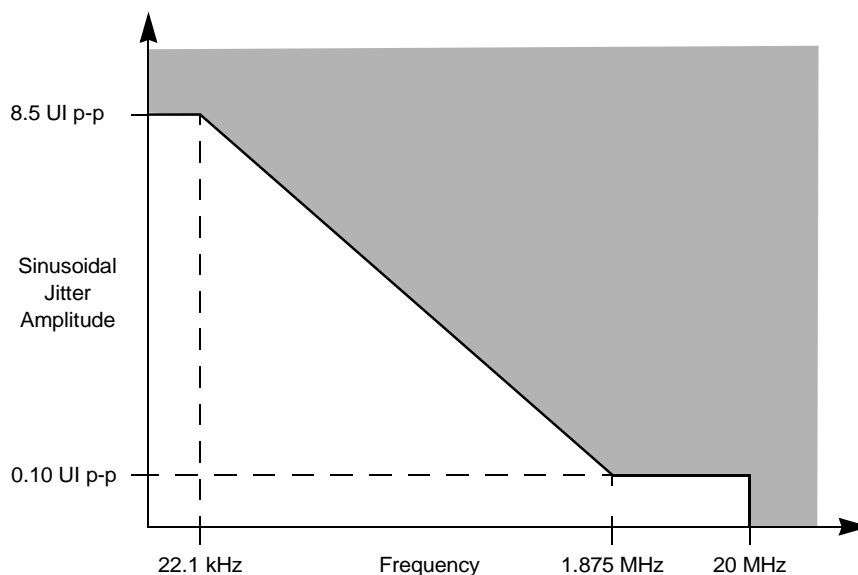

Figure 18. Single Frequency Sinusoidal Jitter Limits
2. Total jitter is composed of three components, deterministic jitter, random jitter, and single frequency sinusoidal jitter. The sinusoidal jitter may have any amplitude and frequency in the unshaded region of Figure 18. The sinusoidal jitter component is included to ensure margin for low frequency jitter, wander, noise, crosstalk, and other variable system effects.
Notes: 1. See Figure 18 for single frequency sinusoidal jitter limits 2. Each UI is 800 ps \pm 100 ppm.
Notes: 1. Measured at receiver. 2. Refer to RapidIO™ 1x/4x LP Serial Physical Layer Specification for interpretation of jitter specifications. Also see Figure 18 . 3. Each UI is 800 ps \pm 100 ppm.